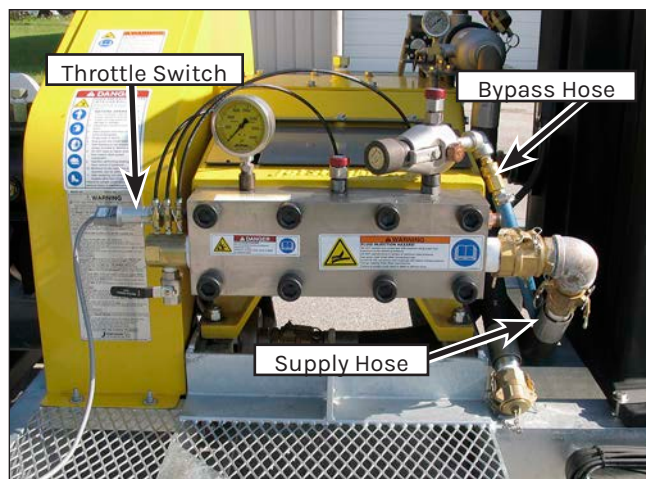

Figure 172: Pump Removal Preparation.
2. Remove the bypass hose and supply hose (Figure 172). If the supply hose is connected to the secondary filter, disconnect it from the filter.